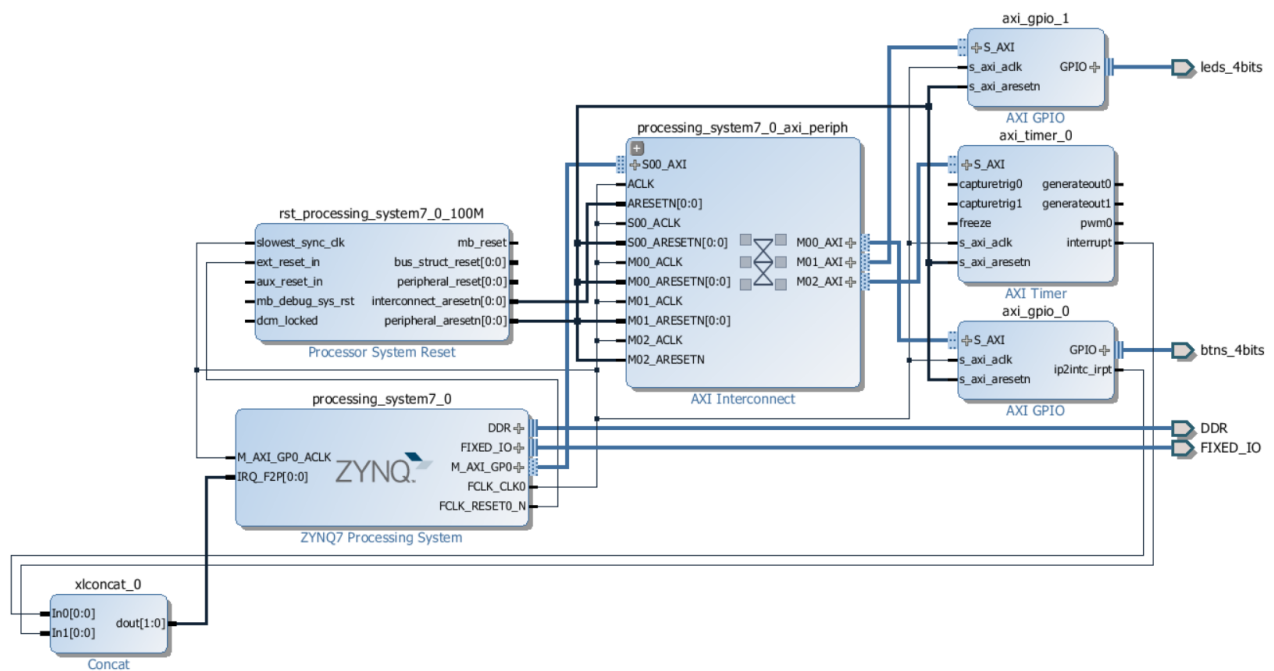

Figure 2.29: Complete system with multiple interrupt sources
- (g) Remove the connection to **IRQ_F2P[0:0]** on the Zynq PS by clicking it and pressing DELETE. Connect the output from the **Concat** block, **xlconcat_0** to this instead. Then, connect the interrupt request from the pushbutton GPIO to **In0[0:0]** and the interrupt from the timer to **In1[0:0]**, creating a shared interrupt signal that is passed to the PS. Your block diagram should be similar to Figure 2.29.